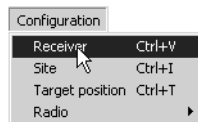

Figura 2-6. Configuration->Receiver
2. Una vez conectado, haga clic en **Configuration->Receiver** (Figura 2-6).